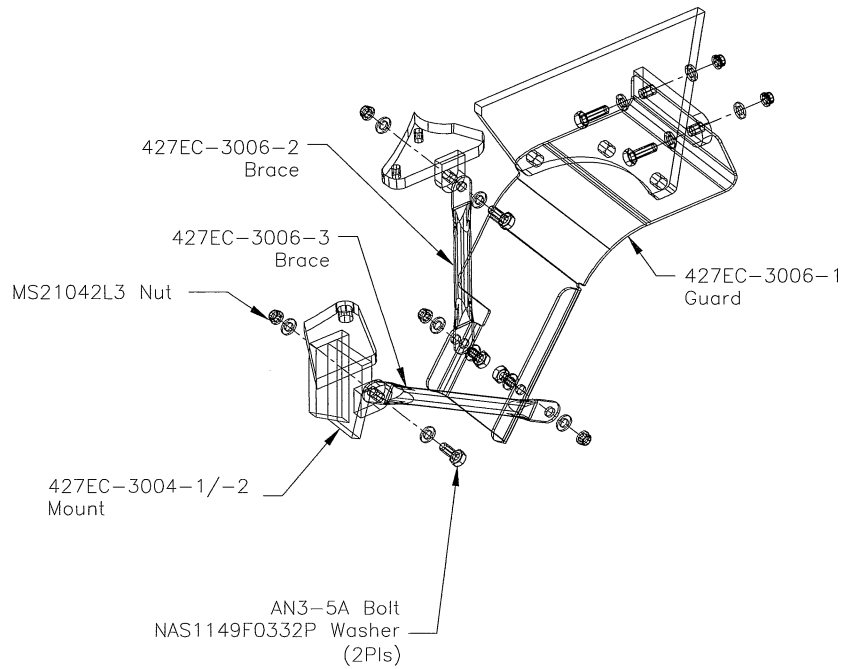

Figure 1.6
9. Remove the AN3-5A Bolt (1X), MS21042L3 Nut (1X), and NAS1149F0332P Washer (2X) that attach the 427EC-3006-3 Brace to the Idler mount 427EC-3004-2. (See figure 1.6)
8. Reinstall the AN3-5A Bolt (1X), MS21042L3 Nut (1X), and NAS1149F0332P Washer (2X) that attach the 427EC-3006-3 Brace to the Idler mount 427EC-3016-2. Torque Nut **50 - 70** in-lbs. (See figure 1.6)